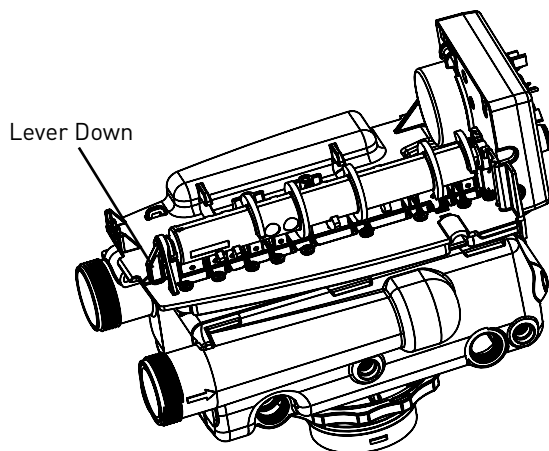

Figure 16
3. The control should be in service position (Figure 16).